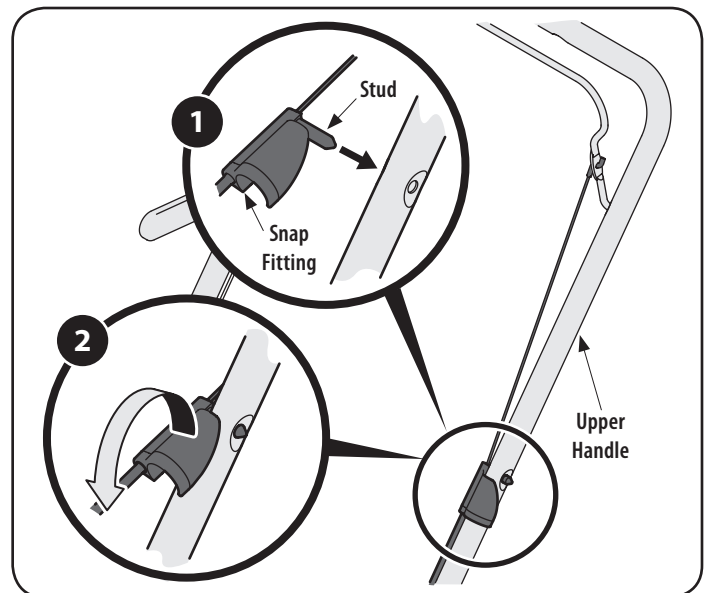

Figure 3
1. Press the stud inside the snap fitting into the hole found on the left side of the upper handle, as shown in Figure 3.